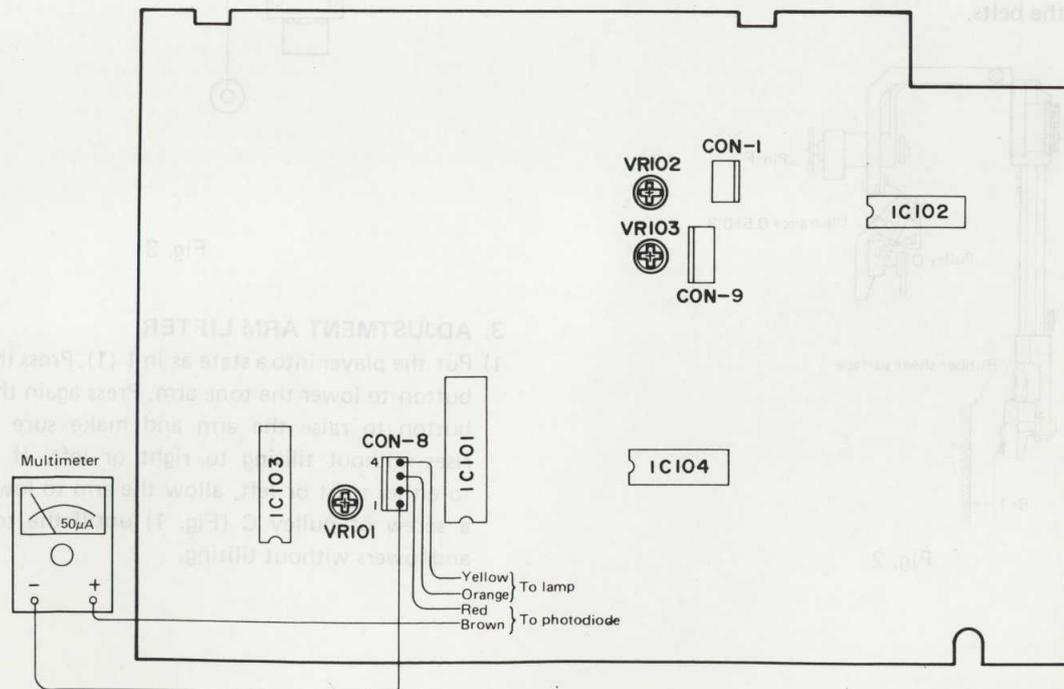

Fig. 6
- 2) The removed connector CON-8 is wired as shown in Fig. 6. Press pin 1 with a standard screwdriver and pull out the brown wire.
- 4) Connect the Multimeter as shown in Fig. 6.